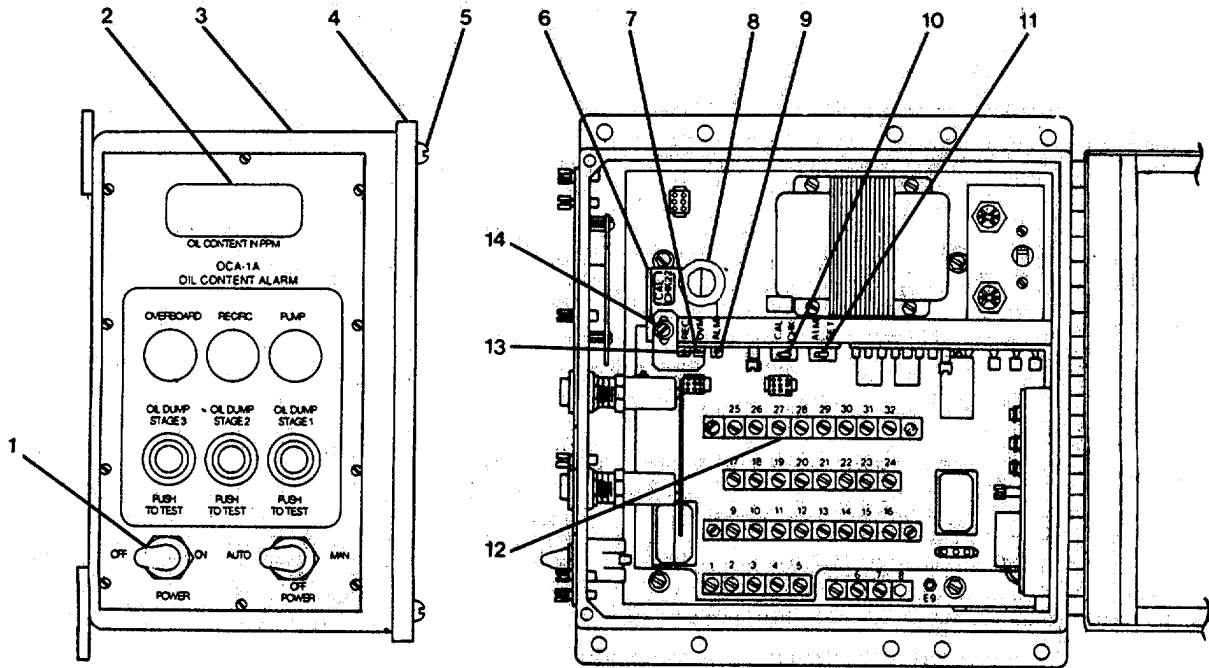

FIGURE 4-9. Control Module Assembly.
- (8) Open suction valve. Remove tag.
- (9) Refer to initial start-up procedures in TM 55-1905-223-10.
**4-19. Calibrate Control Module Assembly and Sensing Module Assembly. (Figure 4-9)**